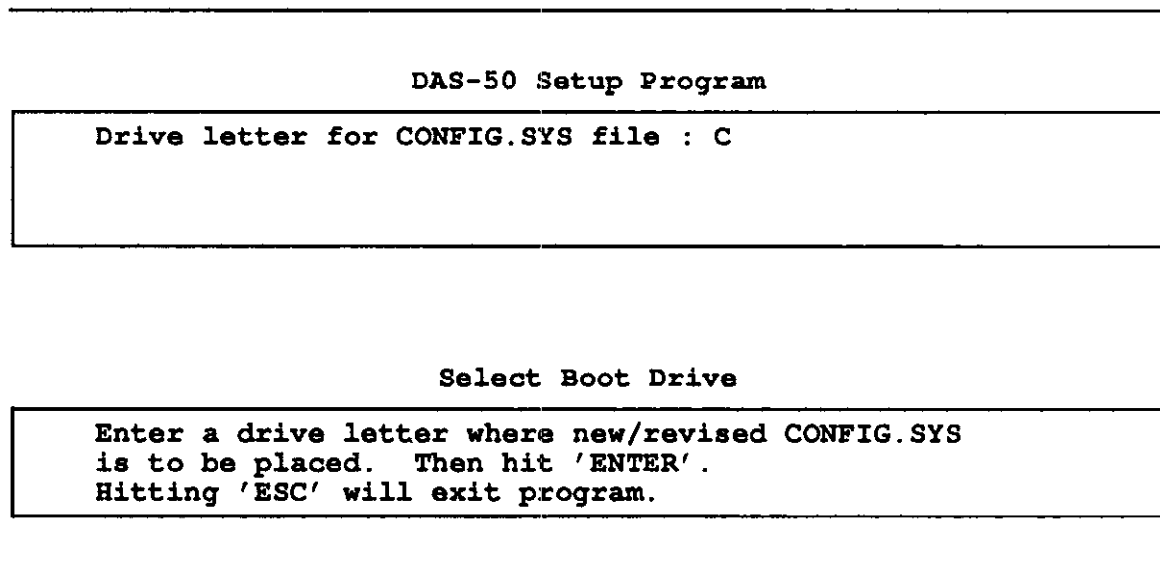
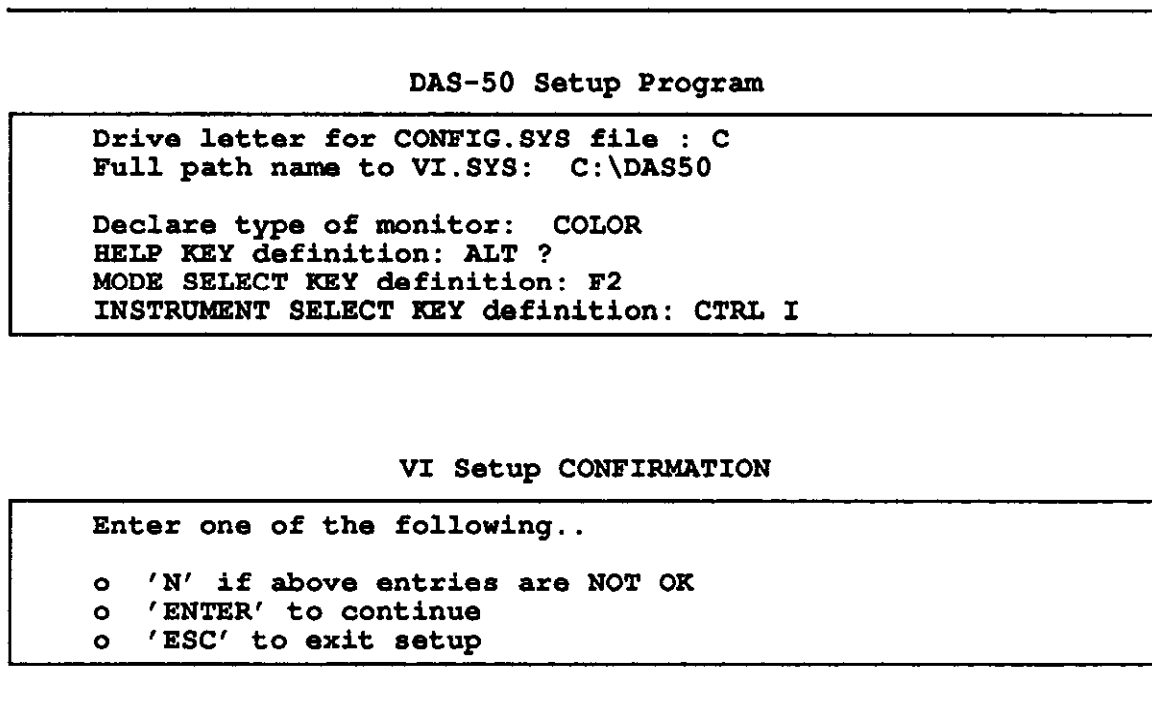

Figure 3-2. Selecting the Boot Drive
Figure 3-8. Confirming the System Setup
The program will then prompt you for the information required by the system driver (*VI.SYS*). Follow the instructions given. Sample screen dialogue is provided in Figures 3-2 through Figure 3-8.
4. You will now be asked to confirm your selections. (See Figure 3-8.) If you wish to change an entry, press **N** and the program will return to the Boot Drive Selection Screen. To return to DOS, press **Esc**. Otherwise, press **↵**.